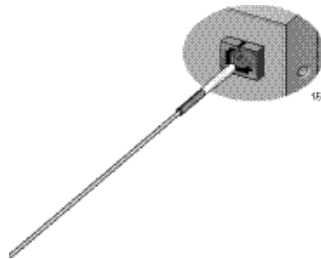

Figure 100. Cleaning a Recessed Ferrule
1. Insert the swab into the adapter as shown in Figure 100 and rub the ferrule tip with the swab.